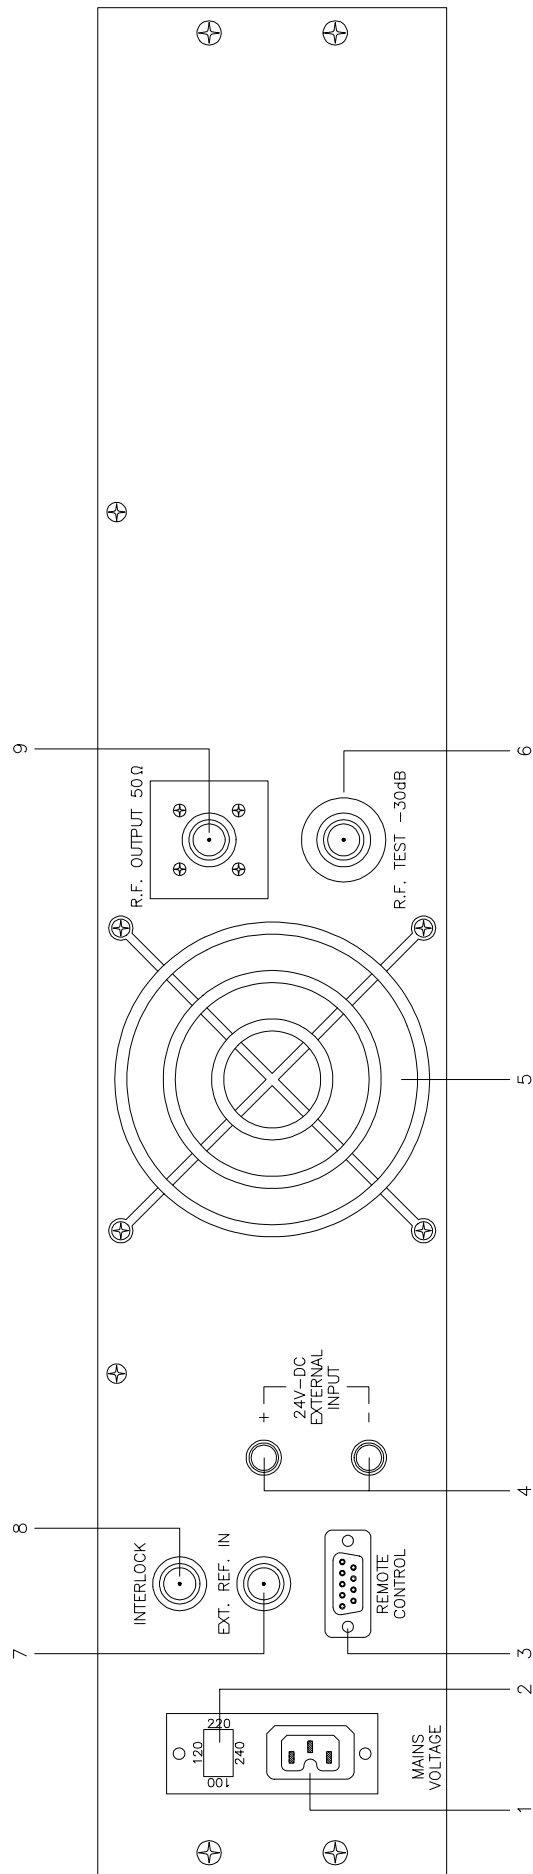
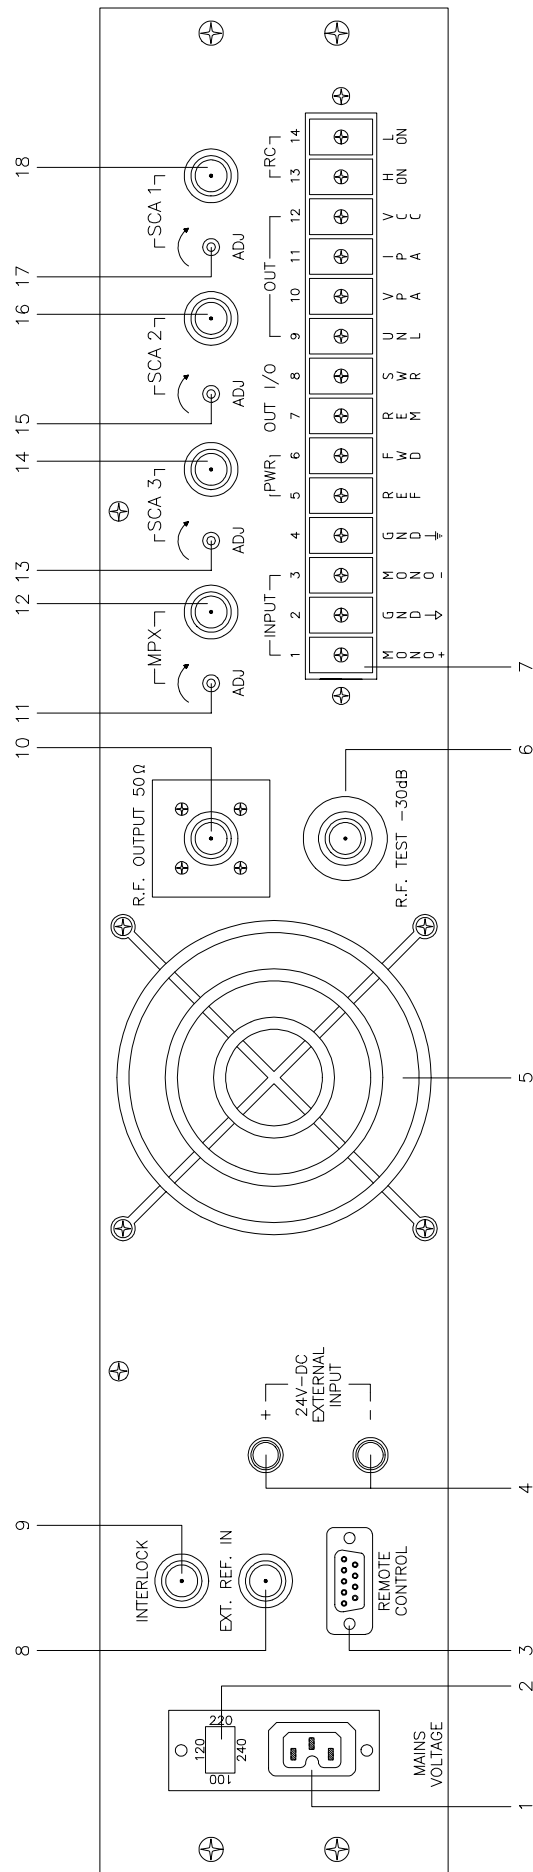

FIG. 2A
FIG. 2B
"EUROPA" VERSION REAR PANEL VIEW DESCRIPTION (FIG.2A)
'U.S.A.' VERSION REAR PANEL VIEW DESCRIPTION (FIG.2B)
- 1) Check the mains voltage selector for proper setting: if necessary, open the cover with a screwdriver (2 FIG.2A-2B) and rotate the cover so that the right printed value corresponds with the arrow, then reinsert the cover.
more to the RF OUT connector on the rear panel (10 Fig.2A, 9 Fig.2B), see SETUP 1.
- 4) Connect to the rear input "REMOTE" (8 Fig.2A, 9 Fig.2B) a cable with a switch between shield and inner conductor and close the switch.
Connect a low-distortion audio frequency generator to the Mono input (2 Fig.1A) or STEREO input (4 Fig.1A) for EUROPA version and Mono input or MPX input (12 Fig.2B) for U.S.A. version.